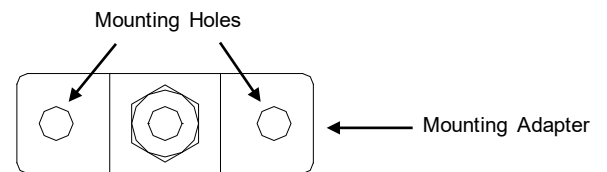

Figure 2
- 3.2.2 Mount the module with (2) #8 screws to a suitable mounting surface (See Figure 2).